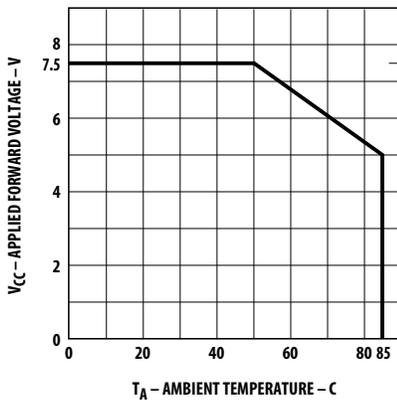

Figure 3. Maximum allowed applied forward voltage vs. ambient temperature  $R\theta_{JA} = 175^\circ\text{C/W}$ . 5 volt devices.
2. Derate from  $T_A = 50^\circ\text{C}$  at  $0.071 \text{ V}/^\circ\text{C}$ , see Figure 3.